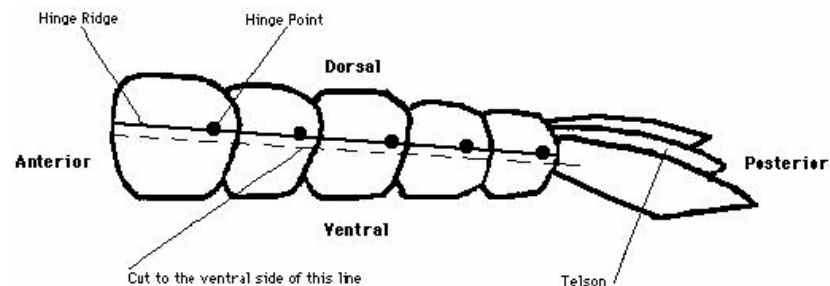

Figure 3-3: Diagram to show the dissection of the crayfish tail.
- 6 Discard the ventral portion of the shell (Figure 3-3 on page 5).